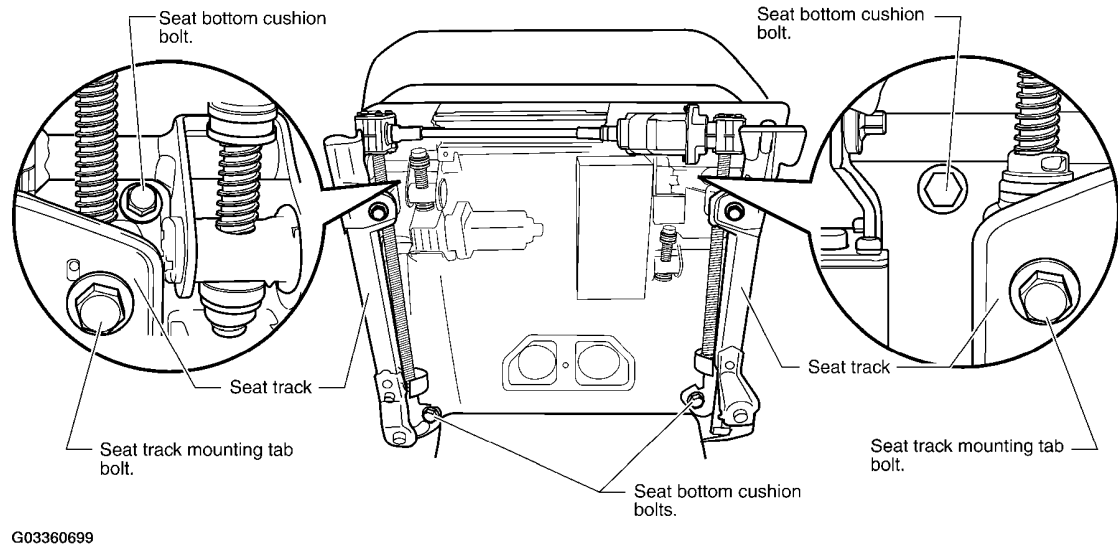

Fig. 4: Removing Seat Bottom Cushion Bolts
12. Remove the four seat bottom cushion bolts (M8, 12 mm head). These will release it from the seat frame (see Fig. 4).
- Then, remove the two seat track mounting tab bolts (M6, 10 mm head), one on each side (see Fig. 4).
25. Tighten bolts (M6, 10 mm head) into both seat track mounting tabs (see Fig. 4). Bolt torque: 65-84 in-lb (7.3-9.4 N.m).
27. Re-install four bolts (M8, 12 mm head) to tighten the seat bottom cushion to the seat frame (refer to Fig. 4 if needed). Bolt torque: 13-17 ft-lb (17.5-23.7 N.m).